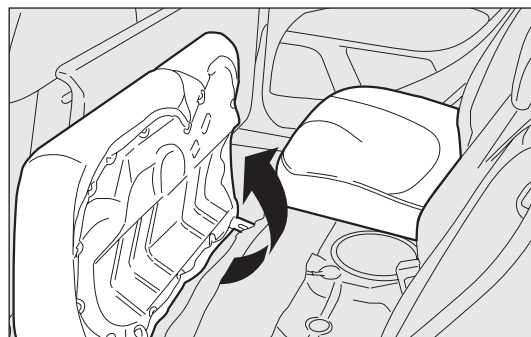

fig. 100
Partial extension (1/3 or 2/3) fig. 100 (for versions/markets where provided)
- ☐ tilt the cushions forward as shown by the arrow fig. 100;